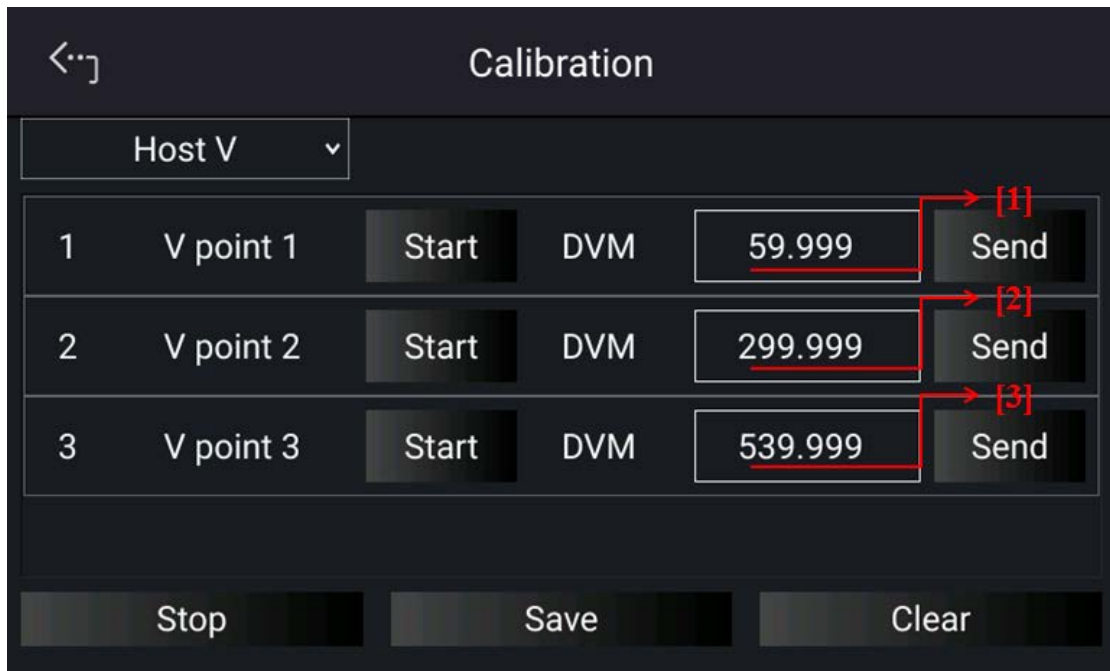

Figure 3-65
5. When above voltage calibrations are done, tap “STOP” to exit the calibration procedure. To save the calibration data, tap “SAVE”, and tap “CLEAR” to delete the calibration parameters if there is no need to save this data as shown in Figure 3-65.